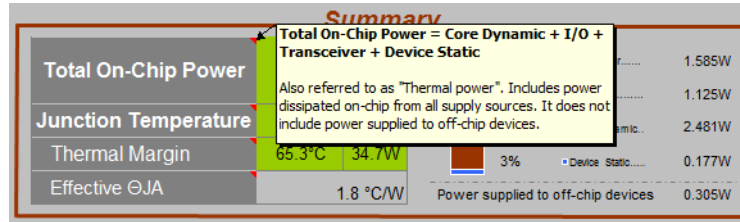

Figure 1-2: Comment Indicators and Comment
**TIP:** XPE is intended to be intuitive to the novice spreadsheet-user. For information about a cell in the spreadsheet, move the mouse over the comment indicators (red triangle at the top right corner of the title cells) to read the relevant notes for the intended use (see Figure 1-2).